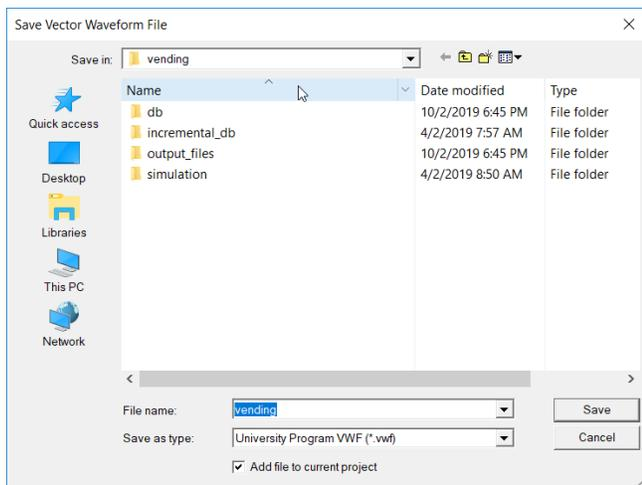

Figure 37. Save the vector waveform.
- Choose **File** ➔ **Save as....** A pop-up box will appear as shown in Figure 37, click **Save**.